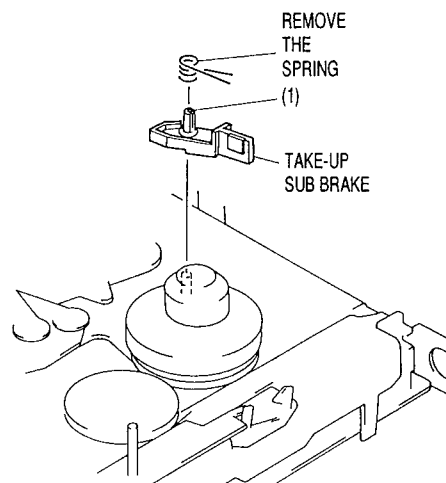

Fig. 3-17
- 1) Remove the spring between the chassis and take-up sub brake. (See Fig. 3-17)
- 2) Release 1 tab (1) and pull out the take-up sub brake.